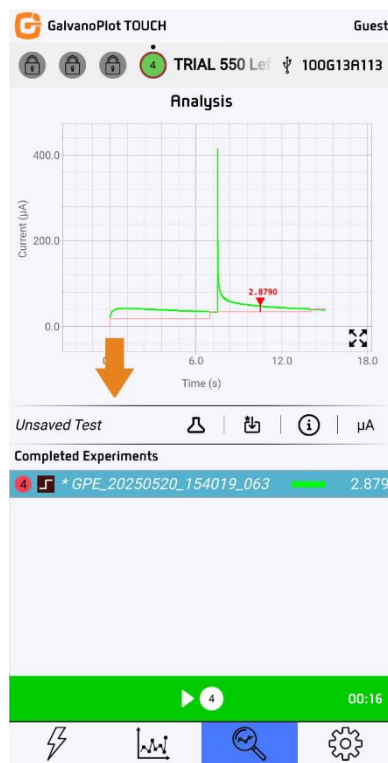

Figure 2: Test Parameters button in Analysis Menu
- Select the experiment and click the Test Parameters button (see Figure 2) in the Analysis Menu.